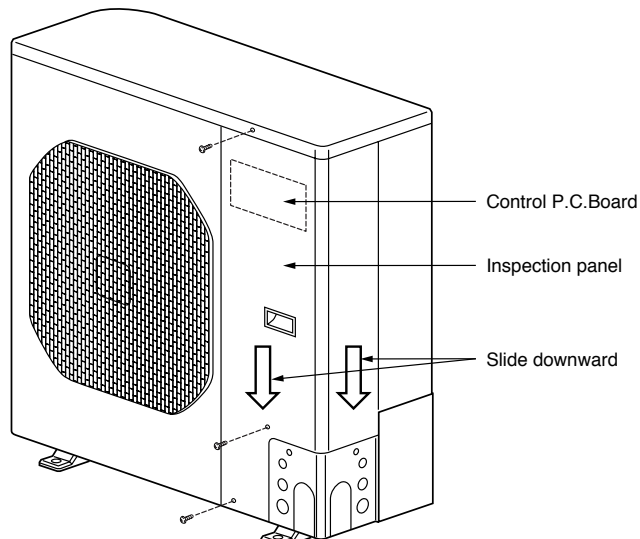

Fig.2 View from front
- (1) Remove the 3 screws fixing the inspection panel and remove the inspection panel. (Fig. 2)
Refer to Fig. 2 in "■ Noise Reducing Control" for details.